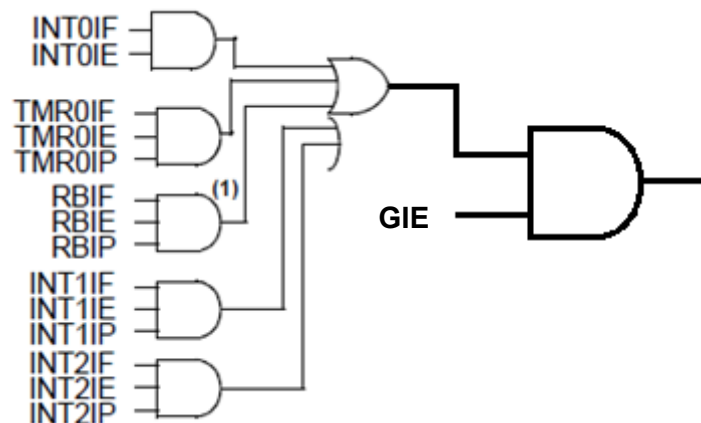

Figure A3 (a) / Rajah A3 (a)
- (a) Based on Figure A3 (a), discuss the instructions to enable INT0 and INT1 external hardware interrupt in PIC18.